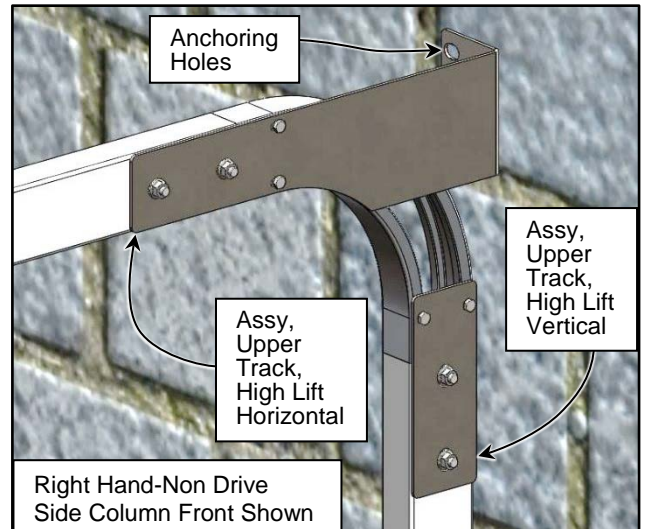

Figure 70
- Confirm the track is plum, level, vertical, and true to the lower track. Fasten the track assembly to the wall with anchors per "**ANCHORING METHOD**" section and shim as required. (See Figure 70)